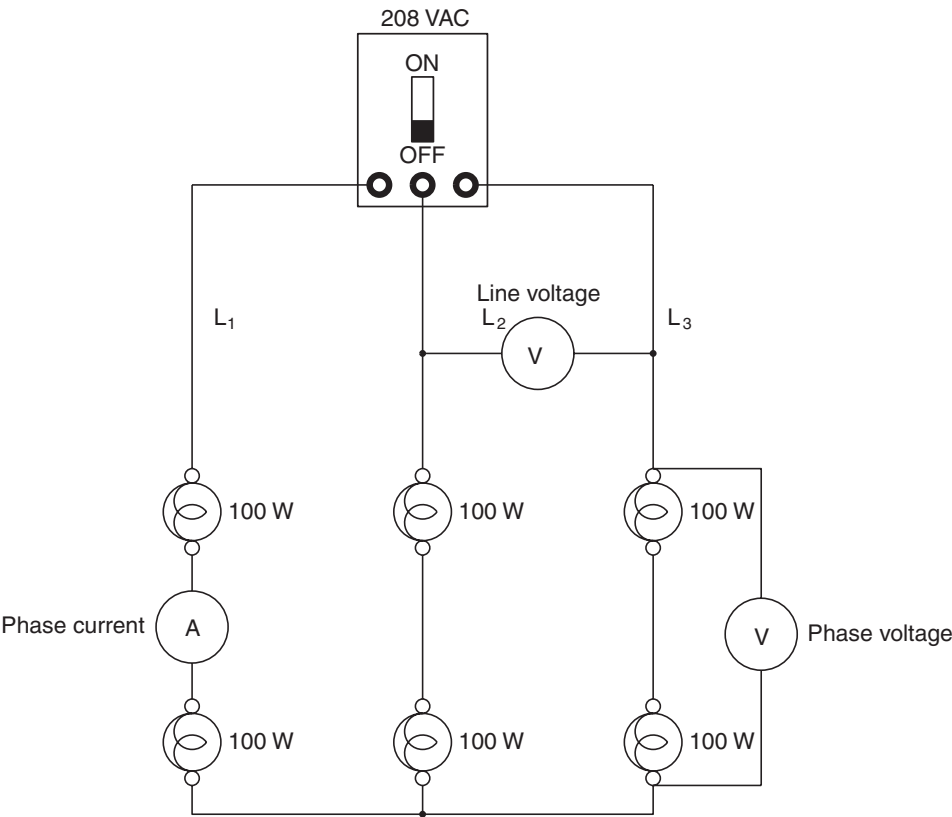

Figure 23-21 Measuring the phase current in a wye connected load.
7. In a wye connected system, the line current and phase current are the same. Reconnect the circuit as shown in Figure 23-21.